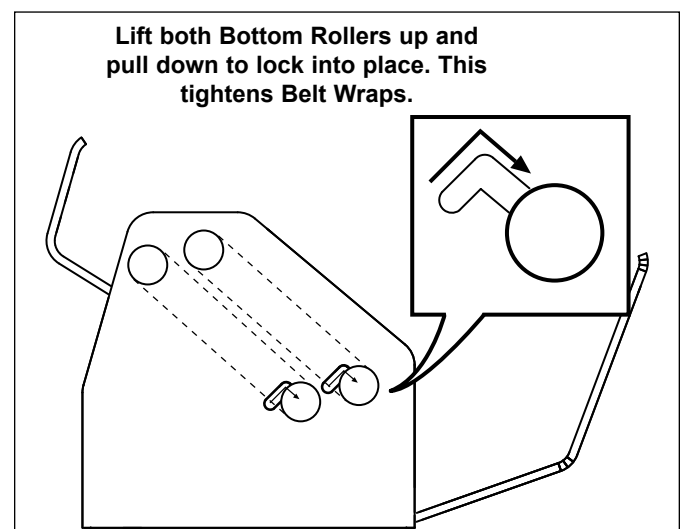

Figure 14. Restoring Belt Wrap Tension
NOTE: The bottom Belt Wrap should be installed by threading the Belt Wrap around the bottom rear roller, up through the unit, and around the back top roller. The connecting pin must face the bottom of the unit. The connection point must match Figure 14.
6. Return the lower rollers to full tension by lifting up and then pulling down on each roller to lock it in place (Figure 14).